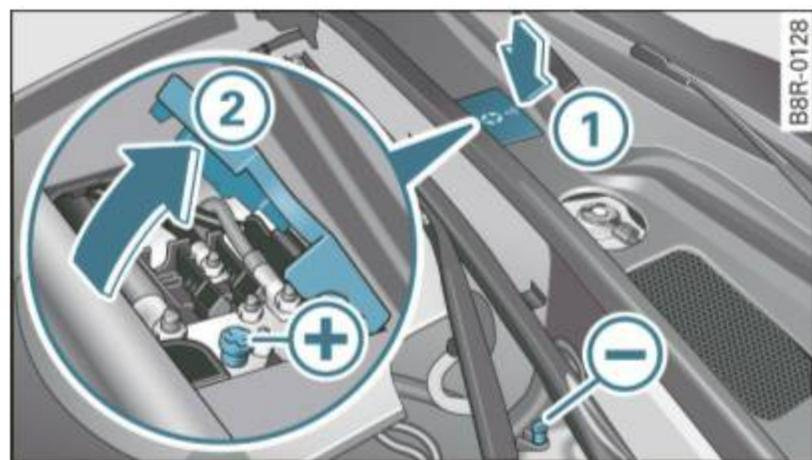

Fig. 205 Engine compartment: Connectors for charger and jumper cables
- Remove the cover (1) by pressing on the arrow ⇒ page 266, fig. 205.
- Open the cover (2) on the positive terminal.
- Close the cover (2) on the positive terminal and re-install the cover (1).